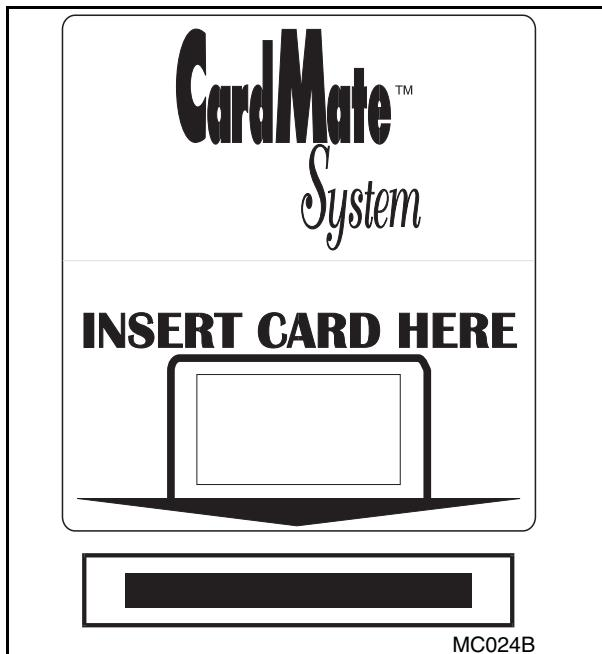

Figure 2–4
4. If the machine is equipped with the CardMate Plus™ smart card system, insert card into card reader and follow the instructions on the LED display. See Figure 2–4.